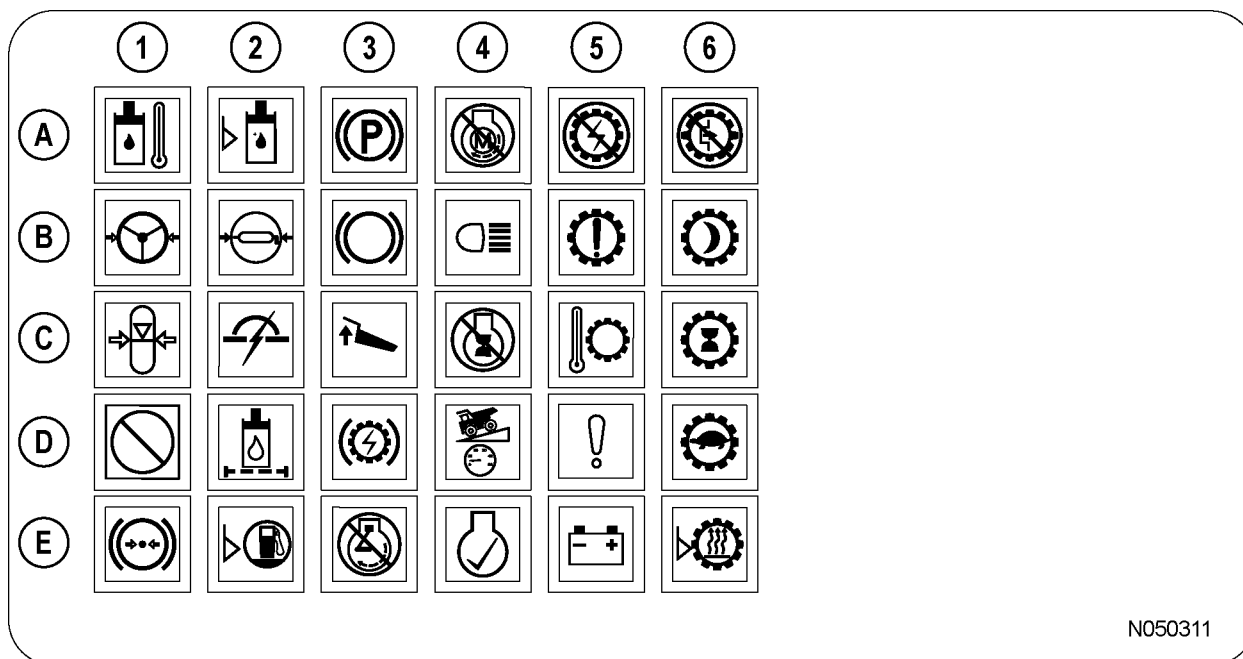

FIGURE 5-10. OVERHEAD STATUS / WARNING INDICATOR
Amber indicator light (B6, Figure 5-10) in the overhead panel will illuminate when the rest mode is activated.
*NOTE: Do not use the lamp check switch while the engine is on. Pressing this switch while the engine is on will cause false electrical system faults. Warning light (D5, Figure 5-10) will illuminate and engine shutdown is required to turn it off.*
Backup light switch (18, Figure 5-9) allows the backup lights to be turned on for added visibility and safety when the directional control lever is not in the REVERSE position. When the switch is in the ON position, backup light indicator (B4, Figure 5-10) in the overhead panel will be illuminated.
Red indicates high oil temperature. Continued operation could damage components in the hydraulic system. Warning lights (A1, Figure 5-10) and (E1) in the overhead panel will illuminate when the temperature exceeds a certain level (when the needle enters the red zone). If this occurs, the operator should safely stop the truck, move directional control lever to PARK and operate the engine at 1200 - 1500 rpm to reduce system temperature.
Refer to Figure 5-10 and the descriptions below for explanations of the symbols. Location of the symbols is described by rows (A - E) and columns (1 - 6).